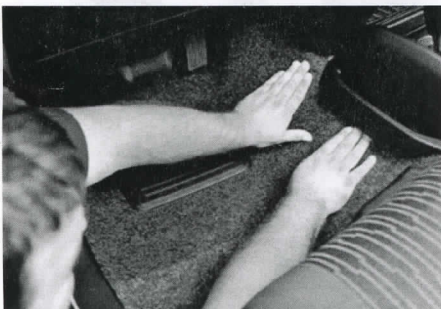
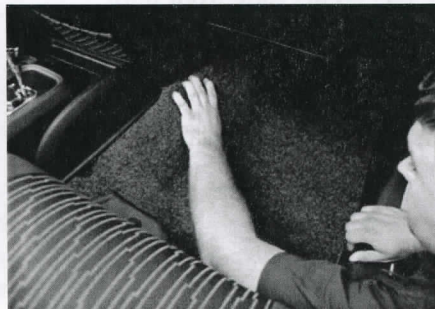

FIGURE 2:
FIGURE 3:
7. Adjust the front seats to the rear most position to allow maximum clearance for installation. Place front floor pieces into place. Tuck under console and around seat brackets as shown. (Fig. 2 and Fig. 3)